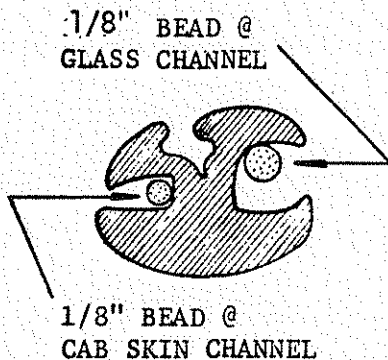

FIGURE 1
- B. Apply windshield sealant (ref. 3M #5537) in an amount of no less than a one-eighth inch bead to the glass channel and an eighth inch bead to the cab skin channel of the rubber molding. The stated bead size should be maintained by regulating the pump pressure and, frequently, checking samples during the period of application. The beads and seal configuration must look like figure 1.